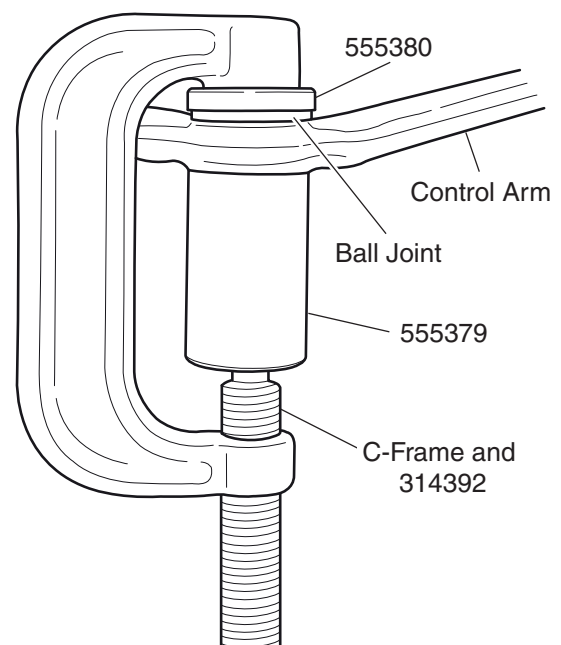

Figure 2. Ball Joint Installation
4. Position 555379, 314392 and the C-Frame on the ball joint as shown in Figure 2.